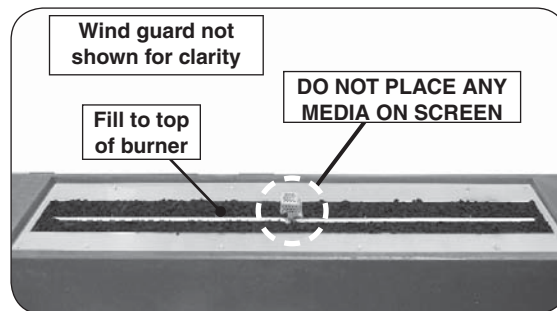
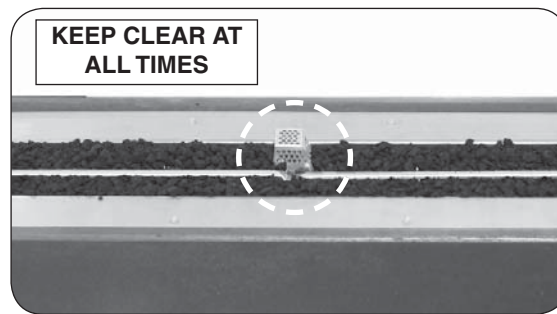

Fig. 22-1 Place lava granules
Fig. 22-2 Screen detail
1. Pour the 10 lb bag of lava granules into the burner area (with the exception of the screen). Spread the granules within the burner area as shown in Fig. 22-1 and Fig. 22-2. **Only fill the granules up to the top of the burner tube.**